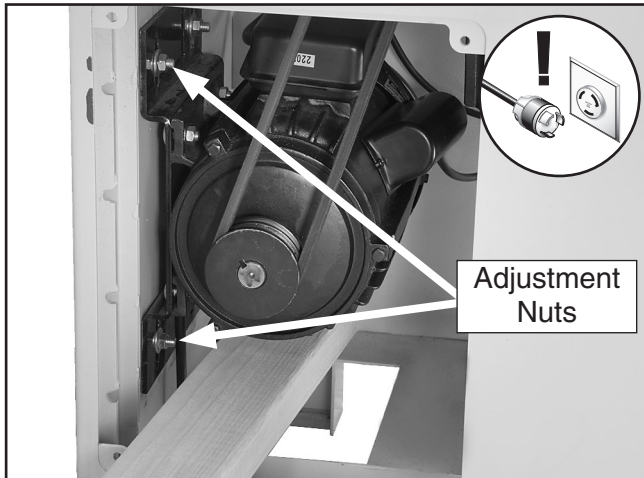

Figure 47. Removing V-belt tension.
- Using a 14mm wrench, loosen the four adjustment nuts and raise the motor (see **Figure 47**) to remove V-belt tension. It may help to use a 2x4 to lift the motor.